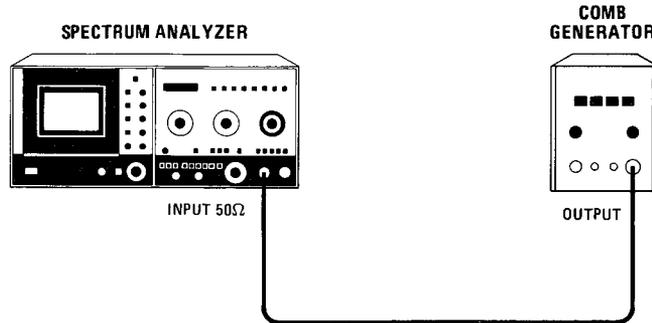

Figure 4-7. Residual FM Test Setup
- b. Connect comb generator output to spectrum analyzer INPUT as shown in Figure 4-7. Set comb generator for maximum output amplitude.